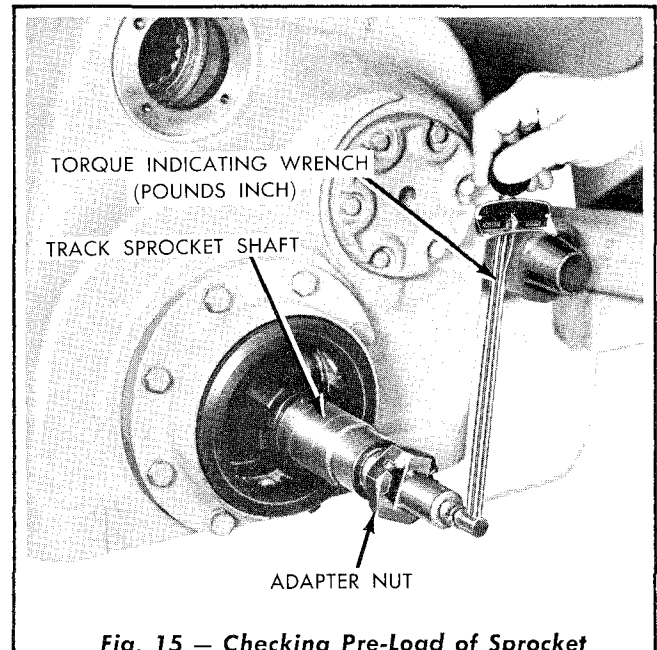

Fig. 15 — Checking Pre-Load of Sprocket Shaft Bearings
3. Procure an extra sprocket shaft outboard bearing retaining nut and weld a small plate and a high nut to the outer face of the bearing retaining nut, so that a torque indicating wrench may be used to check the bearing pre-load as shown in Fig. 15. The sprocket shaft bearings (inner and intermediate) are correctly adjusted when they have 10 to 20 pounds inch pre-load, or when they are adjusted .002" to .003" tight. Add or remove bearing adjustment shims to obtain the proper pre-load. *NOTE: If a torque wrench and an adaptor nut are not available, add or remove bearing adjustment shims until a very slight pre-load (start of pre-load) is noted when turning the shaft by hand, then substitute the combination of shims to reduce the total shim pack thickness .002" to .003" to obtain the proper pre-load.*